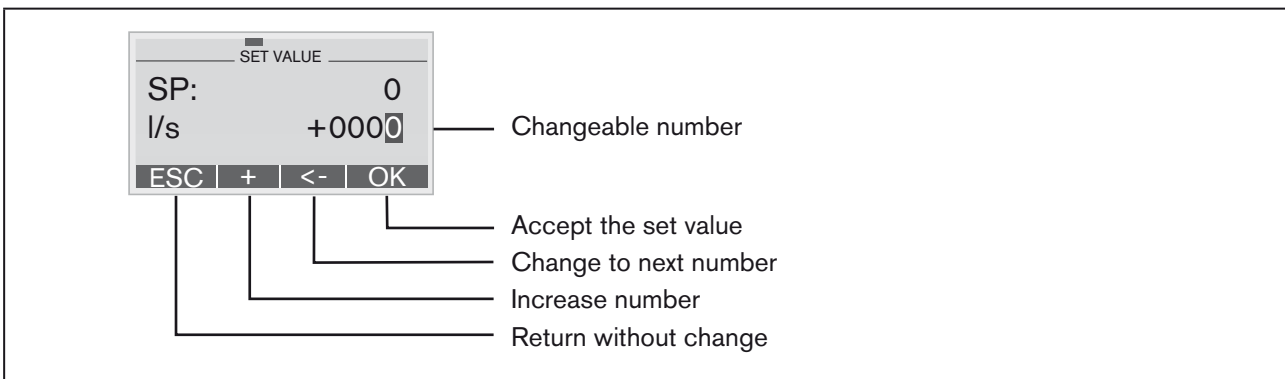

Fig. 86: Setting numerical values SP
- Press the right selection key (OK) to accept the set value (see *Fig. 86:Setting numerical values SP*).